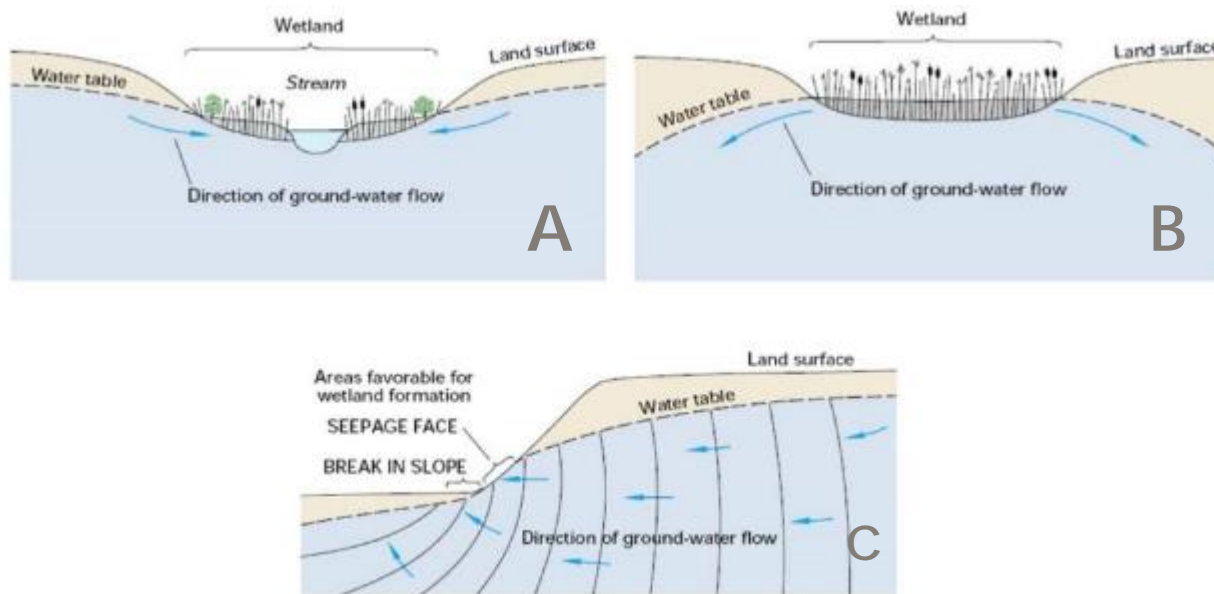

Figure 1 (adopted from USGS, 1998)
- Floodplain wetland areas supported by groundwater (Fig. 1 – A)
- Break in slope wetland areas (Fig. 1 – C)